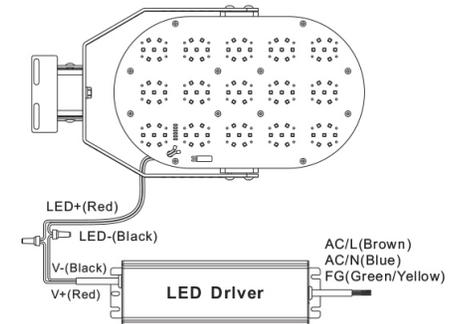

Fig. 4
5. Mount driver into fixture and connect wiring (Fig. 4).